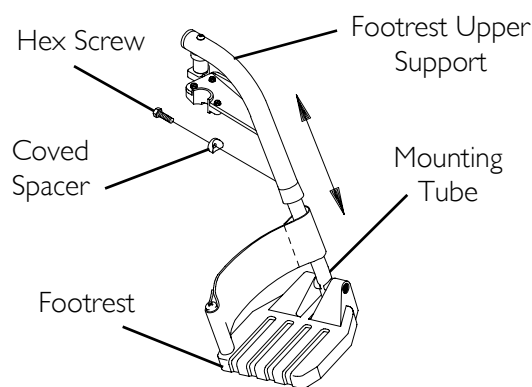

FIGURE 4.3 Adjusting Footrest Height - 60°, 70° and 70° Taper
NOTE: For this procedure, refer to FIGURE 4.3 on page 32.
3. Reassemble the hex screw and coved spacer through the footrest upper support and mounting tube (FIGURE 4.3).